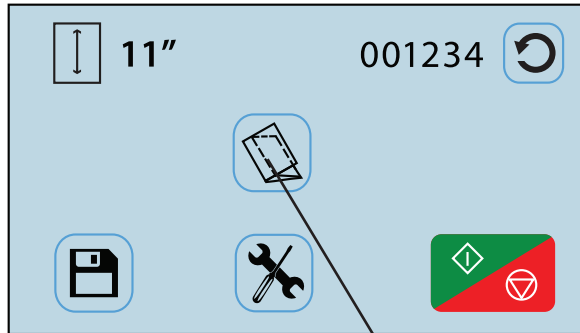
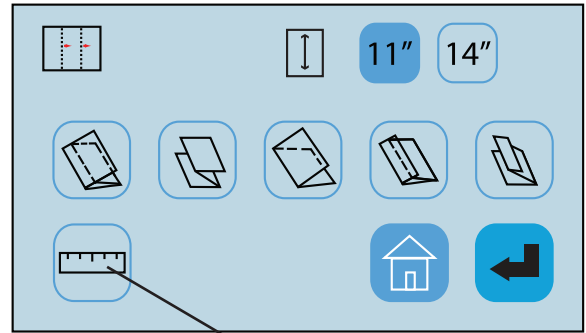

Fig. 9
Fig. 10
Three (3) custom fold settings can be stored into memory for recurring jobs with fold settings that vary from the standard fold settings. To create a custom fold, from the Home Screen press the fold selection icon  to access the fold selection screen (Fig. 9). From the fold selection screen press the Custom Fold icon  (Fig. 10).